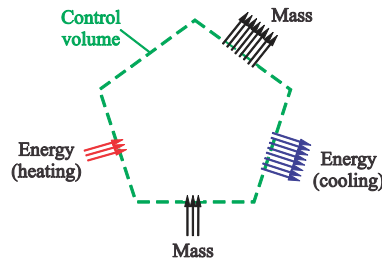

Figure 3: In open system also known as control volume energy and mass can cross the boundary.
Open system or control volume (CV) is a properly selected region in space that usually encloses a device. Both mass and energy can cross the boundary of a control volume. Boundaries of a control volume (open system) are usually shown by dashed lines (Fig. 3).